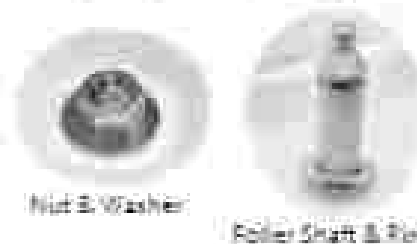

Figure 9 - Roller Hardware
3. To remove the roller shaft, remove the 3/32" nut and washer from the roller support, and remove the support and remaining triangular ring. See Figure 9.